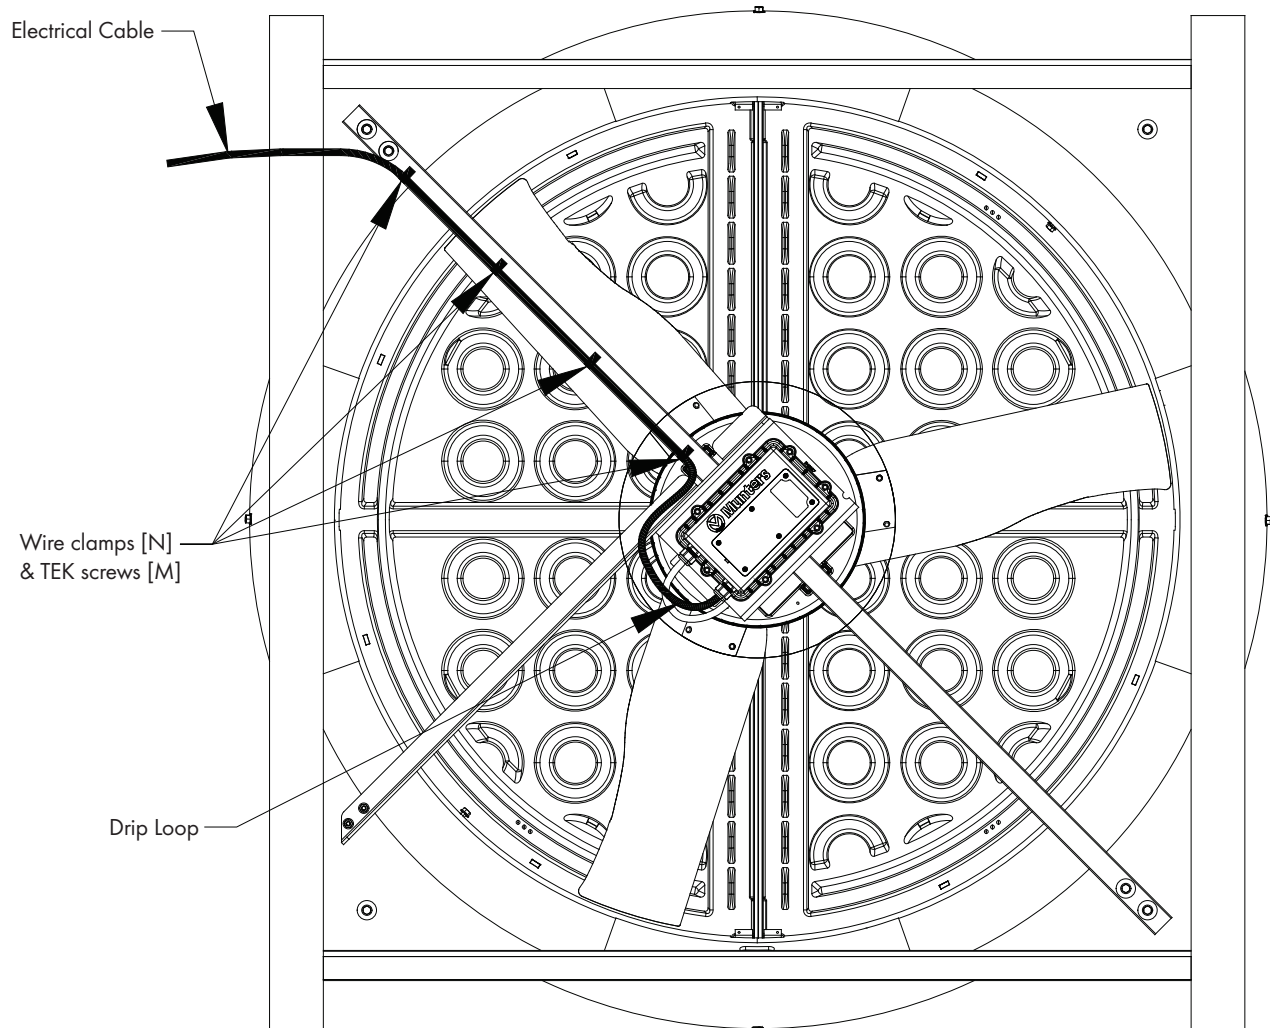

Figure 25A
The Munters Drive Kit comes with a coil of electrical cable that is pre-wired to controller. Find the end of the cable and route the cable up the strut and out of the fan. Create a drip loop in the bottom of the cable and then fasten it to the strut using (4) Wire Clamps [N] and TEK Screws [M]. Attach the new cable to the power supply for the fan. See Figure 25A and 25B. Continue on next page